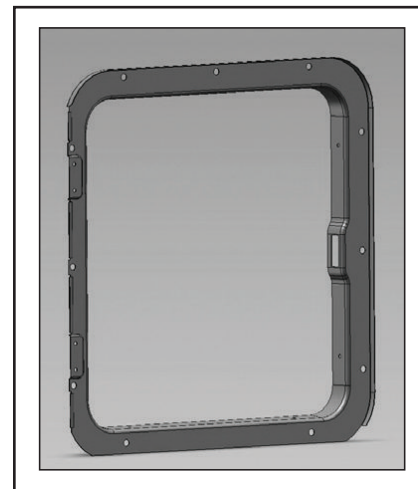

Figure 7
6. Secure water heater housing unit to the vehicle using No. 8 - 3/4" flat head screws through each hole in the door flange (Figure 4 and Figure 7). **Verify that a tight seal exists between the side wall and the flange. If not, repeat above steps.**